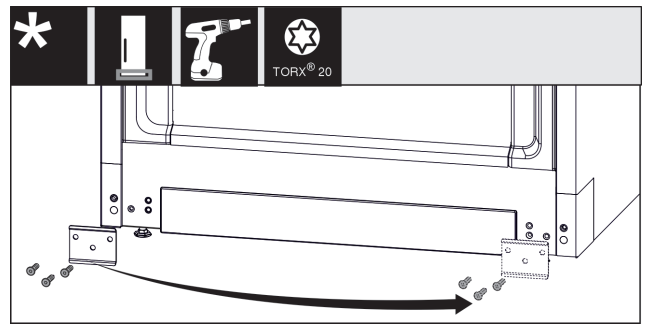

Fig. 15
- Unscrew the plate Fig. 15 (1), move it to the other side and screw it back on.